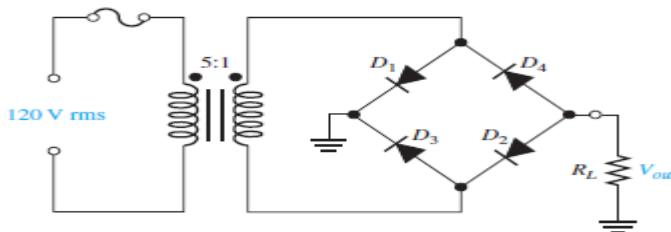

Figure 2-90
21. Draw the output voltage waveform for the bridge rectifier in Figure 2-90. Notice that all the diodes are reversed from circuits shown earlier in the chapter.